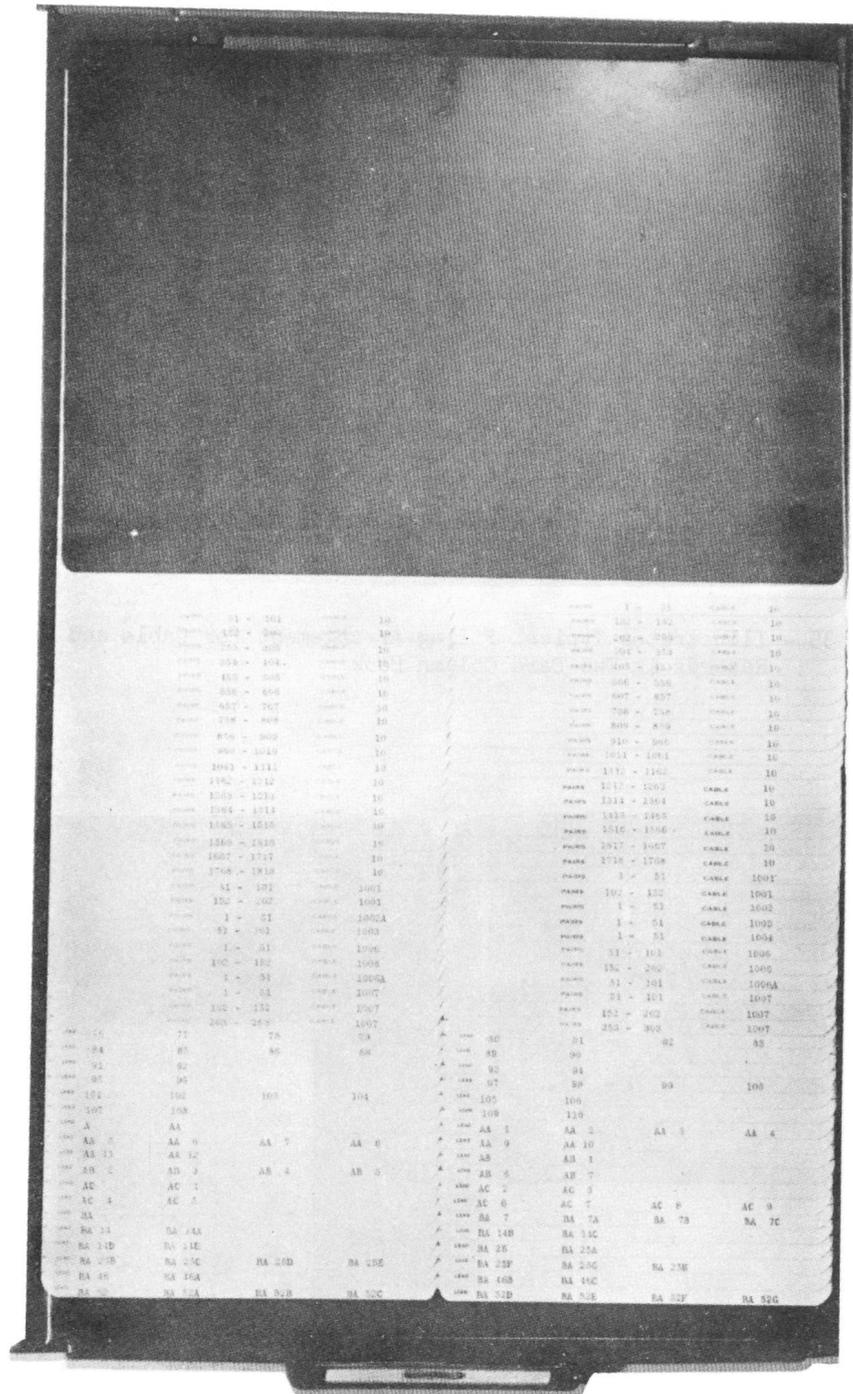

Fig. 34 - Illustrates Typical Filing Arrangements for Cable Record and Wire Record in Cabinet Tray
6.14 Typical filing arrangements are illustrated in Figs. 34 through 37.
6.16 The combination filing of all or part of these records, is illustrated in Figs. 34 through 37.